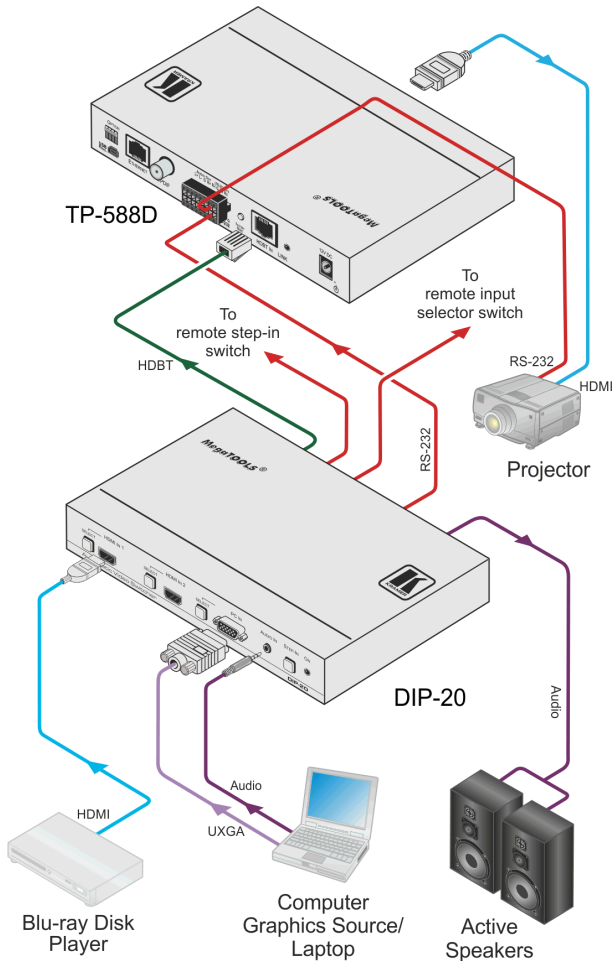

Figure 3: Connecting the DIP-20
To connect the DIP-20 as illustrated in Figure 3:
10. Connect the power adapter to the **DIP-20** and to the mains power, (not shown in Figure 3).